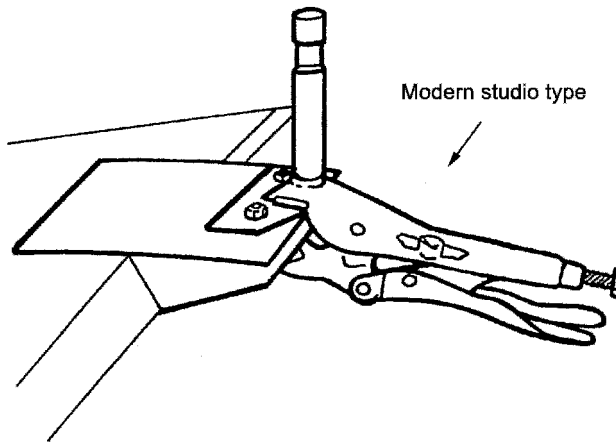

Figure 2.6 Bead board holder.
1. The bead board holder is a vise grip with two large plates attached to the grippers (Figure 2.6).